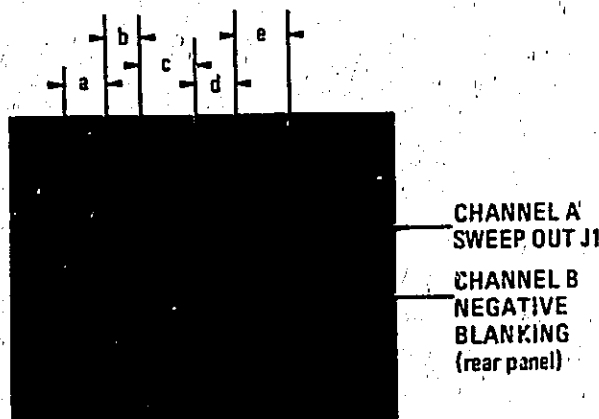

Figure 4-4. Sequential Sweep Ramp Compared in Time to Negative Blanking
- e. Adjust oscilloscope Channel A and Channel B to display waveform as shown in Figure 4-4.
- h. Relationship of sequential sweep ramp (Channel A) and Negative Blanking waveform (Channel B) should be as shown in Figure 4-4.